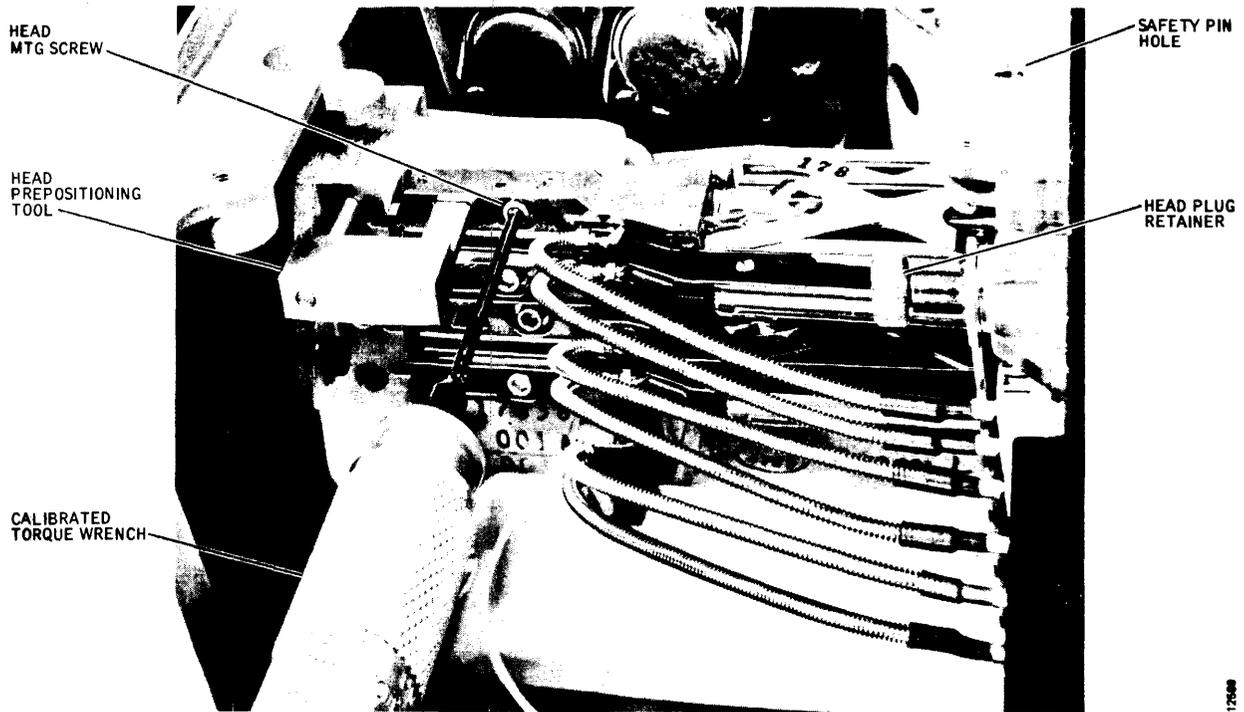

Figure 3-3. Head Prepositioning Tool Installed Along with Calibrated Torque Wrench
The head prepositioning tool (Figure 3-3) is used to establish course head positioning when installing a head. After a head has been fitted into place, the positioning tool is pressed into the tool recesses to establish the course head position.
A calibrated torque wrench (Figure 3-3) must be used to ensure that all heads are not overtorqued and that they are all torqued to the same value. The tool is precalibrated to 104 inch ounces. Figure 3-3 shows the tool in use.
4. Install the two-prong head prepositioning tool (Figure 3-3) in the hole in the head carriage and the slot in the head mount (see Figure 3-9), and tighten the head mounting screw just tight enough to hold the head in place. Remove the tool.